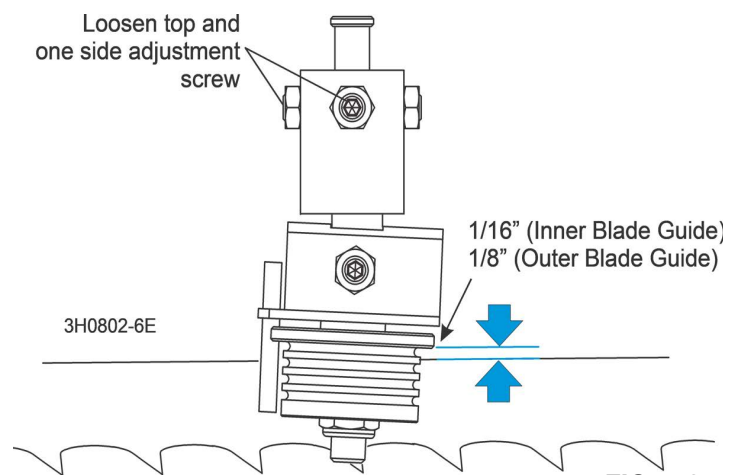

FIG. 5-8
2. Loosen the top and one side screw shown. See FIG. 5-8.